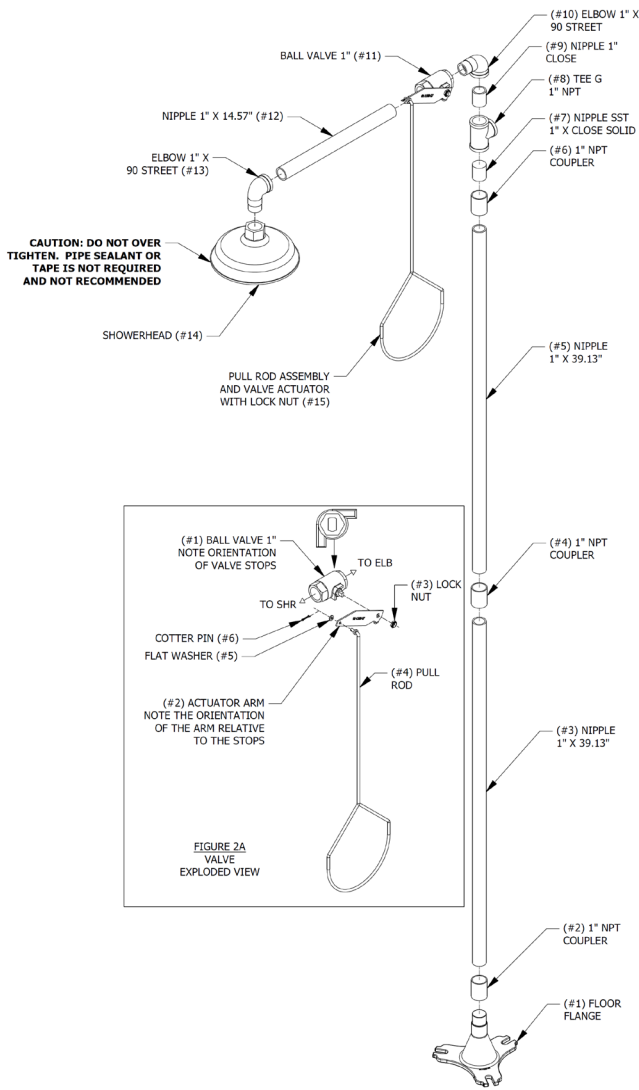

FIGURE 2
5. Assemble components in order based on sequence numbers provided on **Figure 2 and 2A**, ensuring that the inlet tee (#8) is orientated not to impede the activation of the shower valve